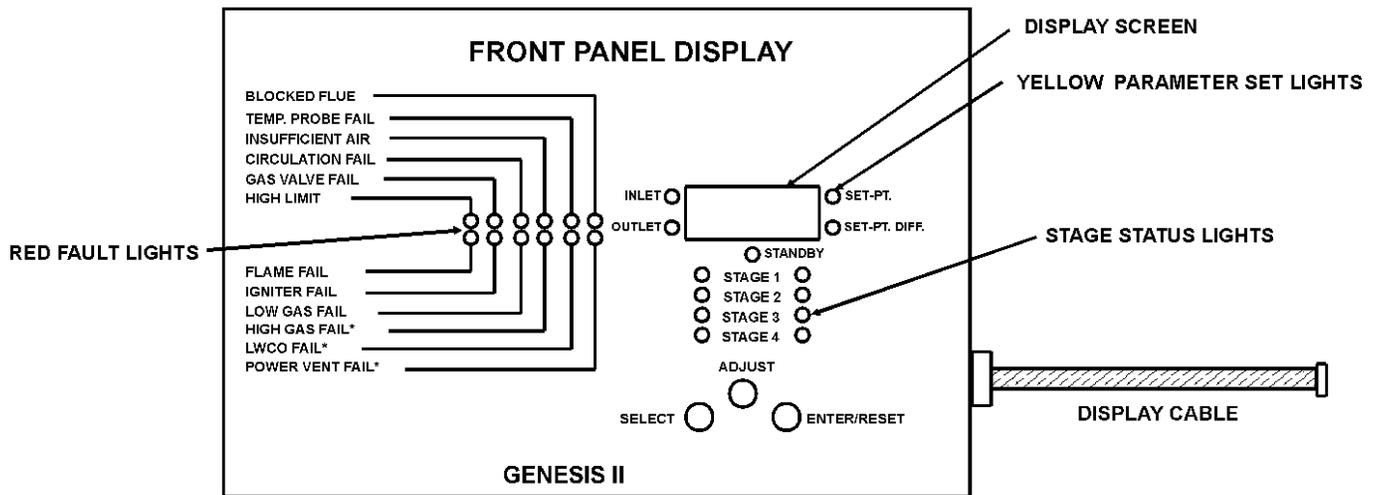

Figure 4. Display Board
When power is applied to the Control System, the Display Board will initially run through a self-diagnostic test, and then display the inlet temperature. To display a specific setting or temperature, press the SELECT push-button until the appropriate LED is illuminated; see Figure 4. After 5 seconds, the Display Board will automatically revert to displaying the Inlet temperature. Pressing the ENTER/RESET push-button will hold the display in the indicated mode until the SELECT push-button is pressed.
Set-Point differential for a given stage is being viewed or adjusted; see Figure 4.
The Red LEDs are illuminated to show faults and help in trouble shooting. There are three faults (High Gas Fail, LWCO and Power Vent Fail) listed as "Optional" which are only functional when the particular "Optional" equipment is connected to the boiler. The red stage LEDs indicate the stage on which a given fault has occurred; see Figure 4.
LEDs, the user can monitor and change settings on the various stages; see Figure 4.
1. Press the SELECT push-button on the Display Board until both the Set-Pt LED and Outlet Water Temperature LED are illuminated; see Figure 4.
1. Press the SELECT push-button on the Display Board until both the Set-Pt LED and Inlet Water Temperature LED are illuminated; see Figure 4.
1. Press the SELECT push-button on the Display Board until both the Set-Pt Diff. and green Stage One LED are illuminated; see Figure 4.